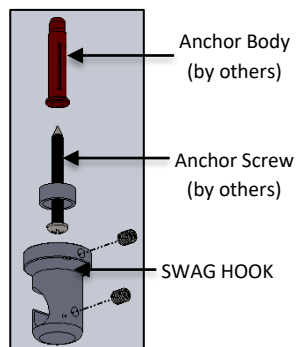
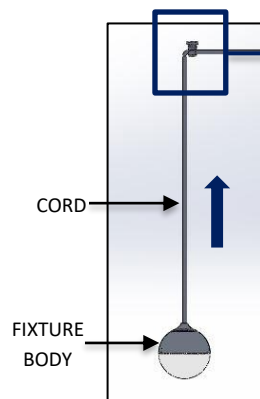

FIG. 10 – SWAG HOOK
FIG. 11 – FIXTURE INSTALLATION
3. Attach the provided SWAG HOOK to the ceiling with ANCHORS (by others) as shown below in FIG. 10 and hang the FIXTURE CORD into the SWAG HOOK and adjust the desired height as shown in FIG. 11 and 12. See the final page of these instructions for several examples of how the hooks can be laid out. Carefully unroll GLOWBALL BODY CORDS. Avoid kinking the FIXTURE CORD, kinking the CORD will damage it.